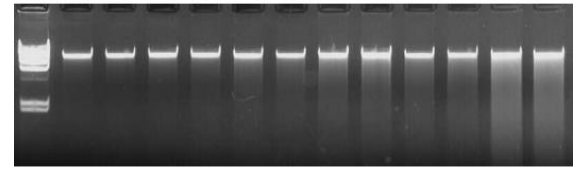

Figure 1: Agarose gel (1.5%, 1xTAE) electrophoresis of DNA isolated from *Arabidopsis* leaves homogenized with Precellys Evolution at given rpm. M = DNA sizer II
- All DNA samples obtained with the Minilys showed good quality, including excellent fragment length (Figure 1) meeting the 100.000 genome requirements of >60% of fragments with a minimal length of 23kbp.
The gel picture obtained for Precellys Evolution (Fig. 1) shows that the yield and quality is comparable in the range of 4600 – 8800 rpm, whereas degradation was observed at 10000 rpm.
Figure 1.- DNA concentrations (ng of DNA/mg of tissue) of mouse heart and liver samples obtained with the Precellys Tissue DNA Extraction Kit (Bertin Bioreagent), competitor M and Competitor Q.